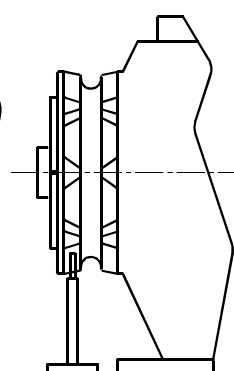

Fig. 2B
- In the case of horizontal shaft anchor windlasses (see Fig. 2B), drill the hole in the outer circumference of the gipsy.